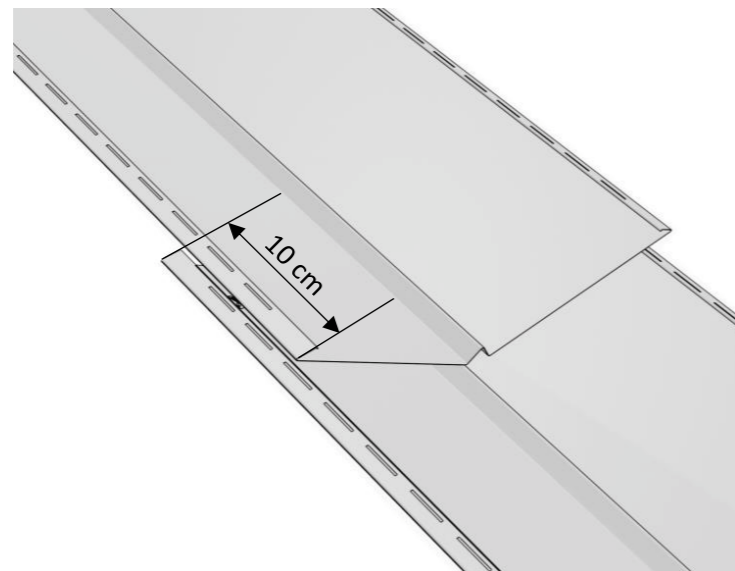

Fig. 18
- Use a 10 cm overlap at the joints (Fig. 18).